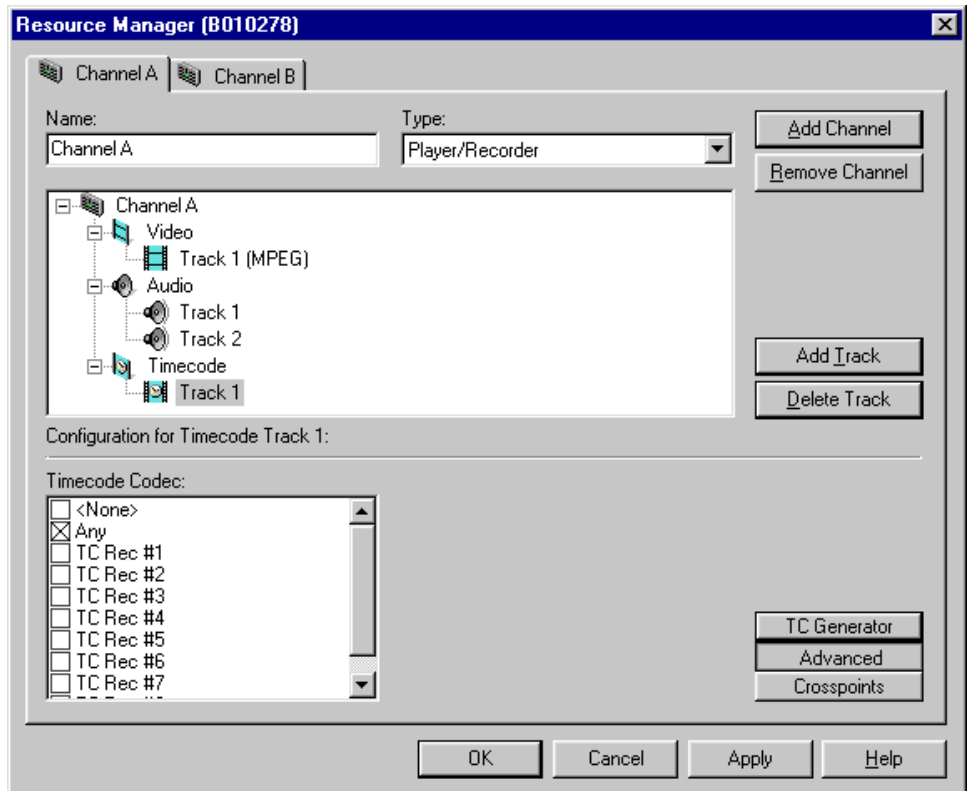

Figure 163. Timecode Codec check boxes
1. With a timecode Track selected in the configuration tree, click the Advanced button. The Timecode Codec check boxes appear (see Figure 163).